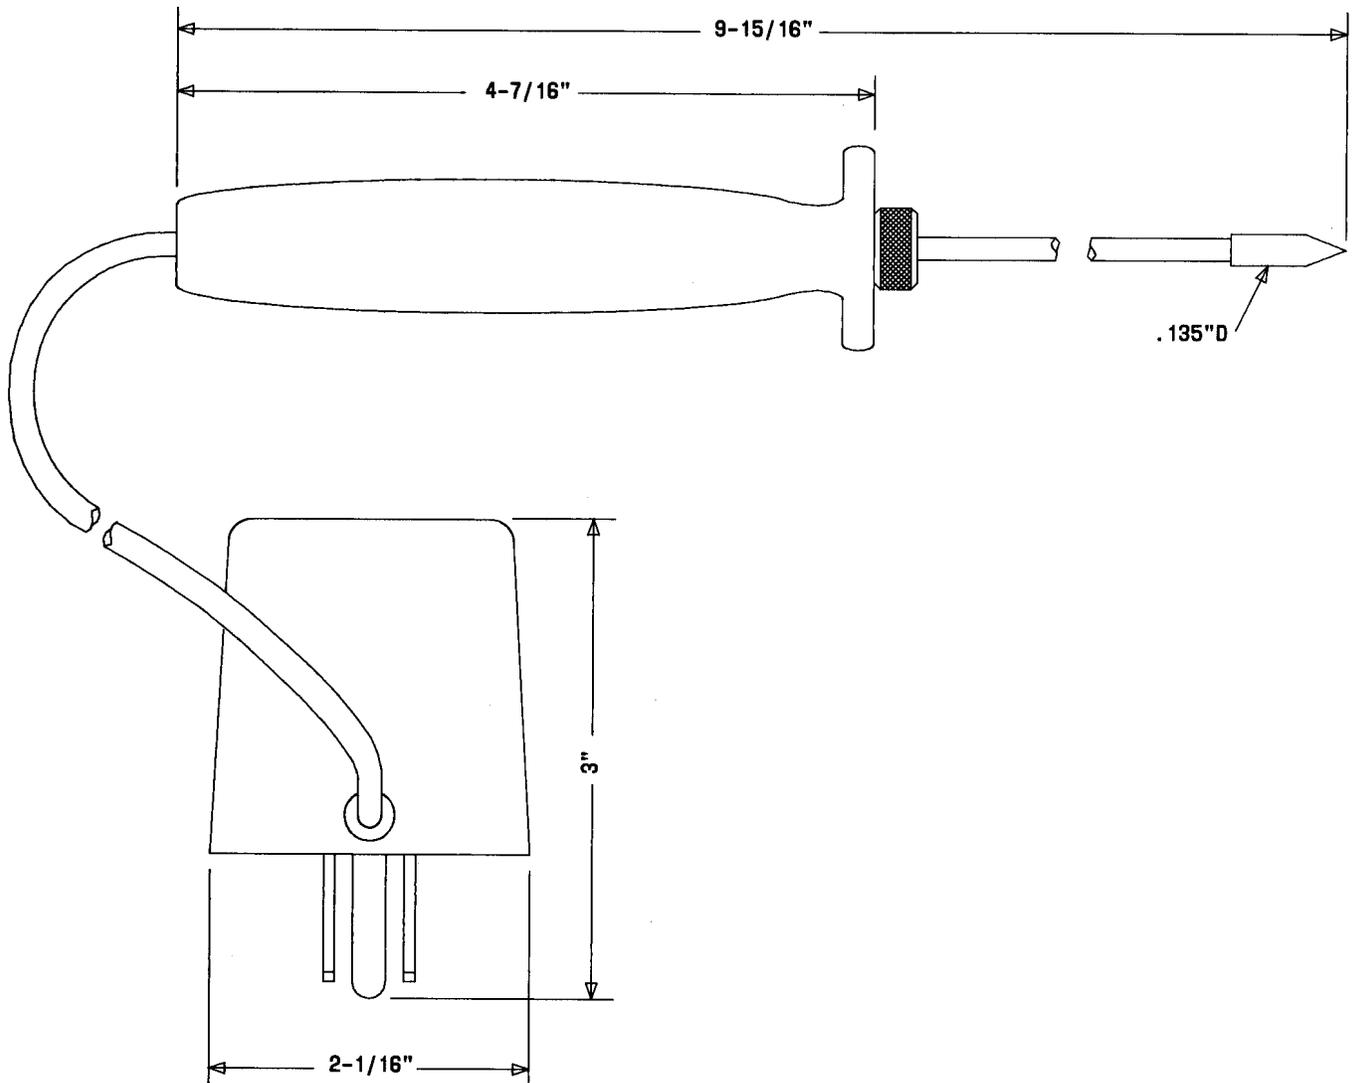

Fig. 5—KS-16346, L1 and L2, Soldering Irons
2.05 KS-16346, L1 and L2: The KS-16346, L1 and L2 (Fig. 5) are lightweight, quick-heating, miniature, 6-volt soldering irons which are primarily intended for use in removing and soldering connections in close spaces, such as on terminals of wire spring relays. The dimensions and characteris-